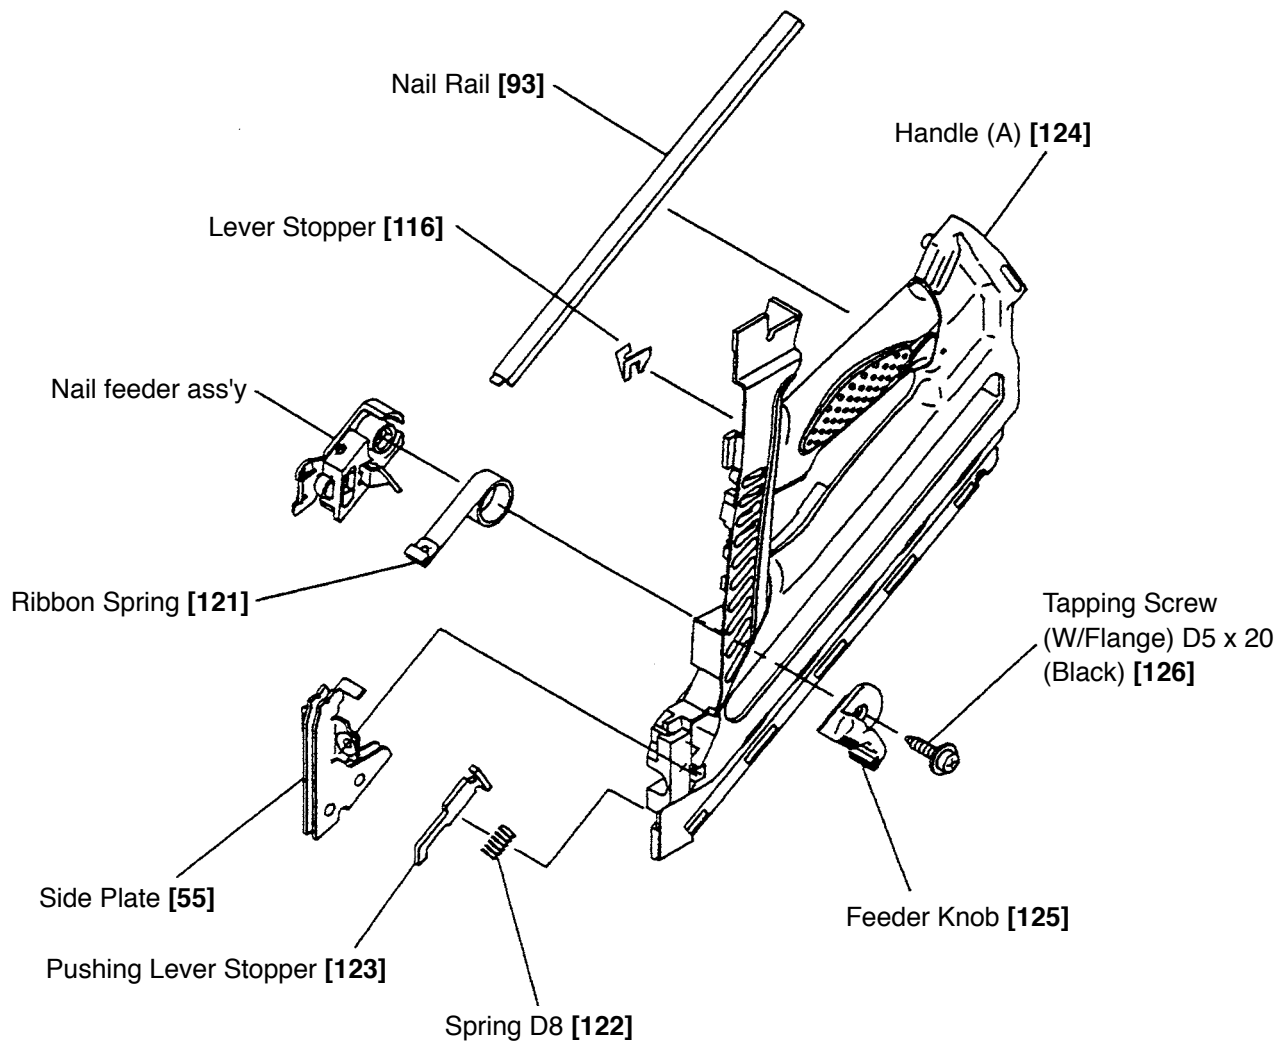

Fig. 51
(2) Disassembly and reassembly of Handle (A) **[124]**, nail feeder and the related parts (Fig. 51)